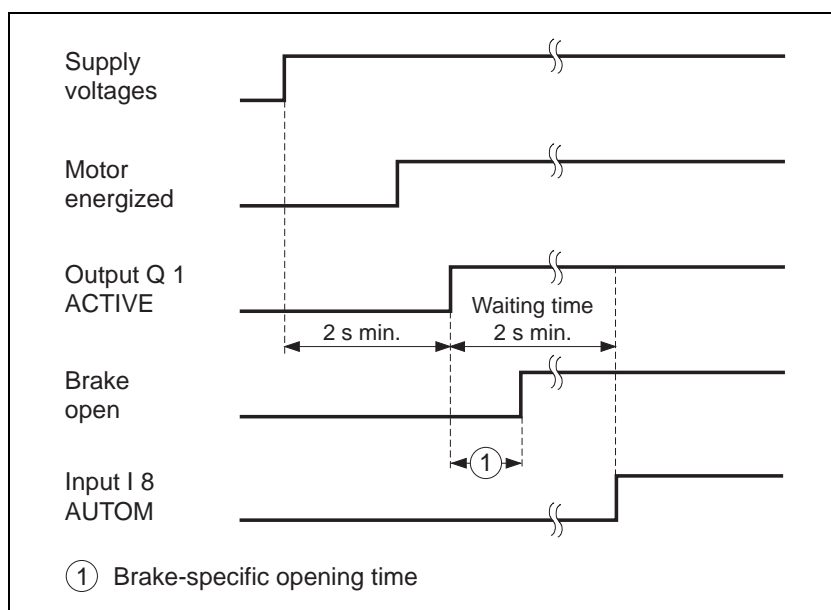

Fig. 3-1 Timing diagram for operation with brake
1. After applying the 24 VDC supply voltage and the system booting process, the controller signals readiness on the ACTIVE signal output after approx. 2 seconds (fig. 3-1). This signal can be used with a suitable relay for releasing the brake. The stepping motor is energized just before the ACTIVE output is set.